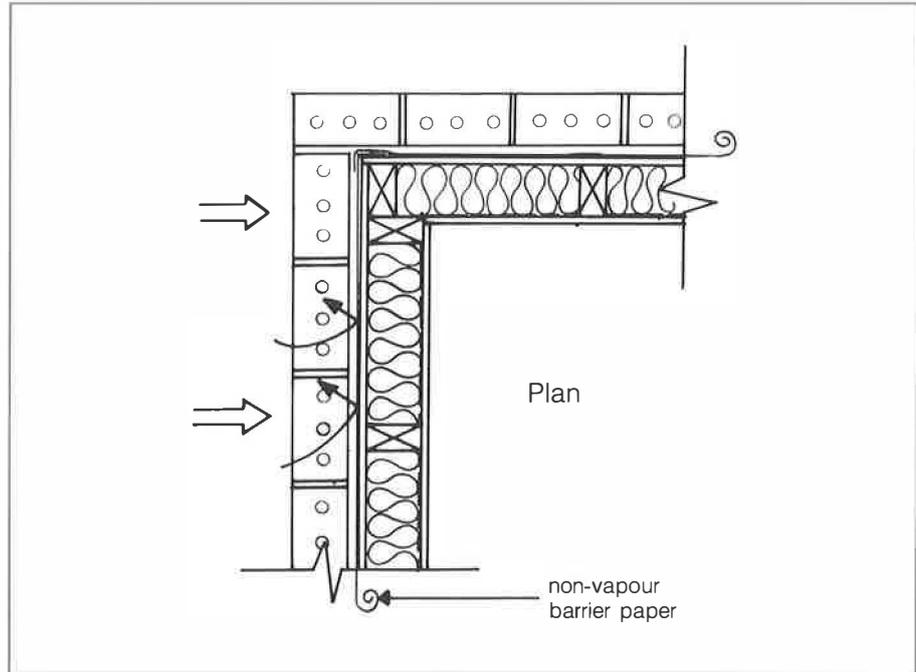

Fig. 30. Building paper minimizes wind washing into insulation
- Install sheathing or building paper (non-vapour barrier) to prevent the wind from blowing directly into the wall cavity or around the corner of the building (fig. 30).